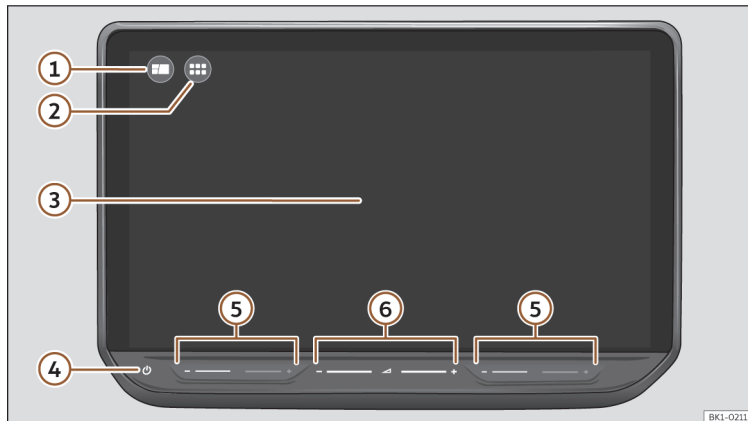

Fig. 155 Overview: control unit
Customise the top menu or the HOME >>> Fig. 155 ① view to quickly access your favourite or most frequently used functions.